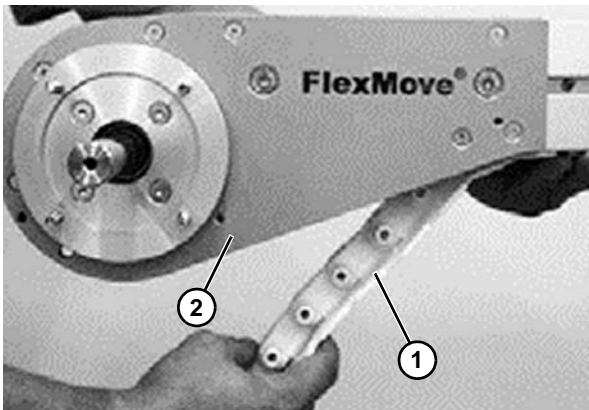
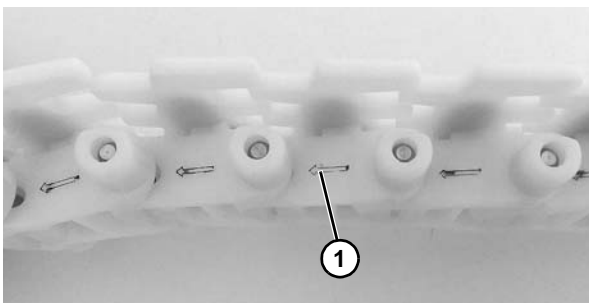

Figure 54
Figure 55
1. Insert the chain (**Figure 54, item 1**) into the underside of the drive unit (**Figure 54, item 2**). Make sure the chain will be moving in the correct direction, as indicated by the arrow (**Figure 55, item 1**) located at the side of all chain links.